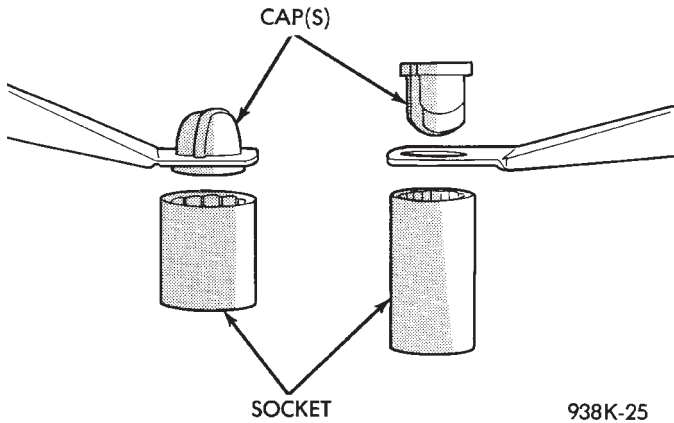

Fig. 15 Cap Removal
(4) To remove cap(s), place the cap shoulder over a socket larger than shoulder and tap on the cap into the socket to remove. To replace cap use a socket larger than the cap. Place linkage on the socket, install cap into position over socket and tap on shoulder of cap to lock into position (Fig. 15 and 16). There are two types of caps, one for the round ball and the other round ball with a pin on top.
(5) For installation, reverse above procedures.